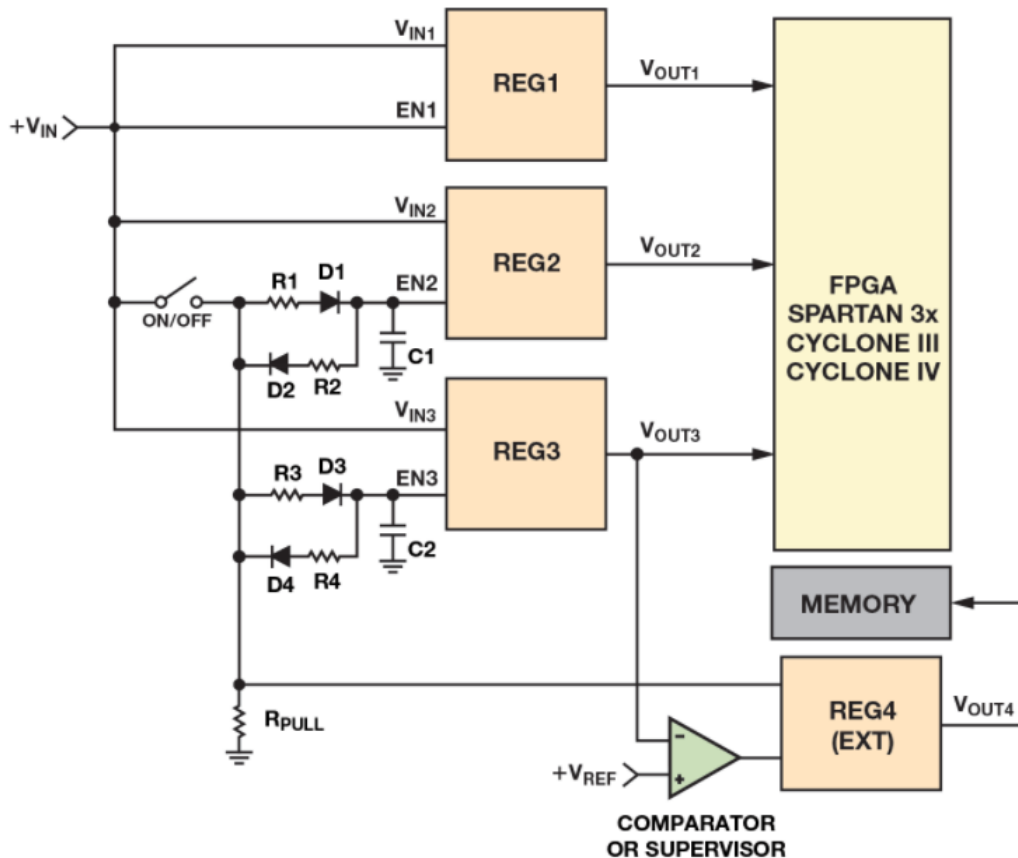

Figure 2. Simple Power-supply Sequencing Method Using Resistor Capacitors and Diodes
As I mentioned, you could implement this required power-up order with a sequencer IC, such as TI’s LM3880-Q1 and UCD9090-Q1; another popular method is a discrete solution. A typical discrete solution uses a resistor-capacitor (RC) network with some diodes to create a delay on the enable of each rail. The values of these components will create the desired order in which these rails will be enabled. Figure 2 shows an example of this implementation.